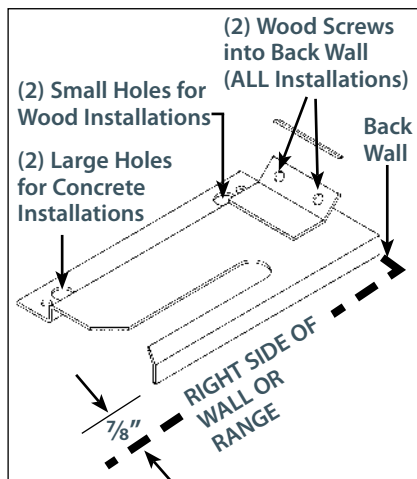

Fig. 09
Place the bracket against the back wall, into the right rear corner where the range is to be located. Leave a gap between the wall (or side of range) and the bracket (see Fig. 09). Drill (2) $\frac{7}{8}$ " diameter pilot holes in the center of the small holes. A nail or awl may be used if a drill is not available. Fasten the bracket securely to the floor and wall.